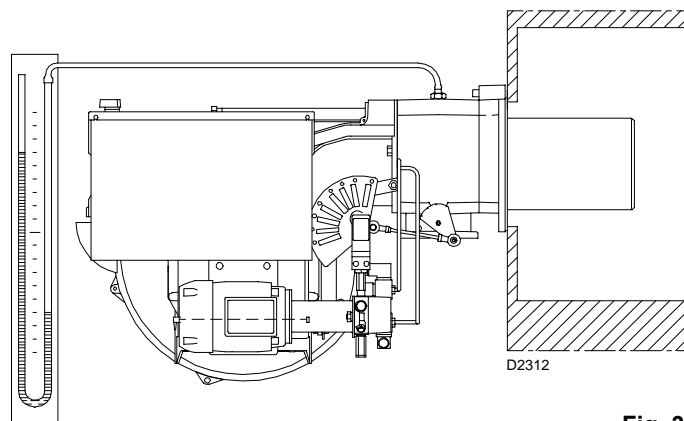

Fig. 35
- Fit a U-type manometer (Fig. 35) to the gas pressure test point on the sleeve.